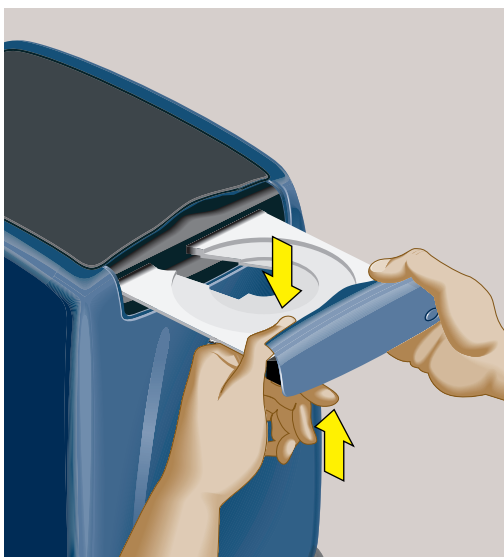

Figure 5-45 Removing the CD-ROM Drive Face Plate
2. Remove the CD-ROM drive face plate as follows (Figure 5-45).